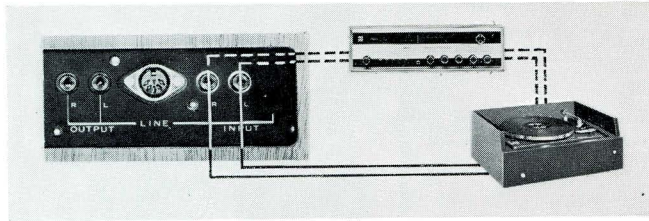

Fig. 29
To record from a stereo or monaural disc, a "CRYSTAL PICK UP" or a "CERAMIC PICK UP" can be directly connected to the LINE INPUT JACKS instead of step (G) of recording procedure. If a "MAGNETIC CARTRIDGE" is used, it must be connected to a separate pre-amplifier or external amplifier before being connected to the LINE INPUT JACKS (Fig. 29).